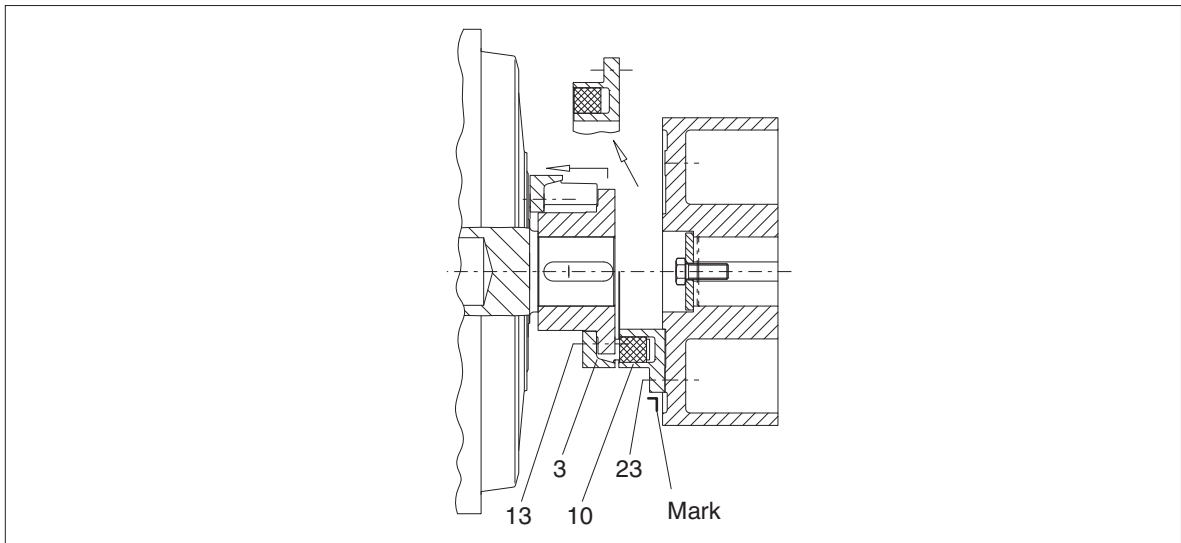

Fig. 11: Disassembling the FLUDEX coupling -a
In case of types FND, FNDB and FNDS the coupling can be demounted without having to move the coupled machines. For this, when the operating fluid has been drained off, part 3 must be uncoupled, the attaching position of part 10 marked, the screw connection (23) then released and part 10 demounted radially (see figure 11).